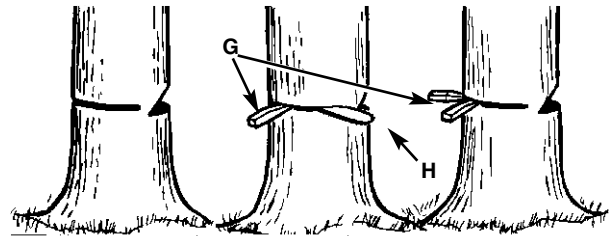

Fig.19
1. Use wooden or plastic wedges (G) to prevent binding the bar or chain (H) in the cut. Wedges also control felling (Figure 19).